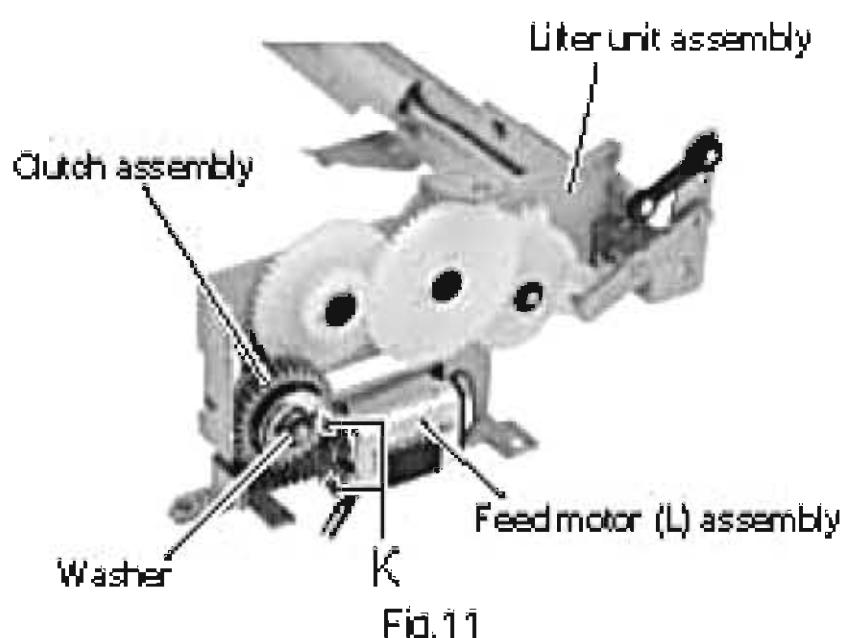

Fig.11
■ Removing the feed motor (L) (See Fig.11)
- Remove the two screws K attaching the feed motor (L).